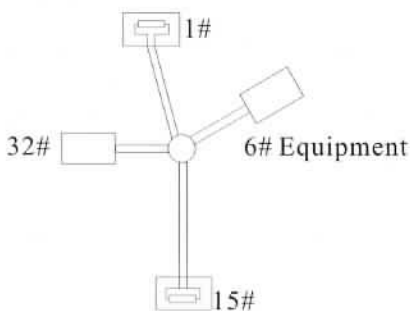
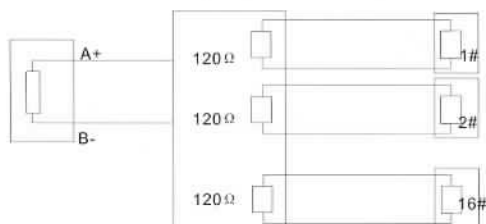

Figure3
Figure4
4) In some circumstances user adopts a star configuration in practical connection. The termination resistors must be connected to the two equipment that are farthest away from each other, such as equipment 1# and 15# in figure3. As the star configuration is not in conformity with the requirements of Rs485 standards, problems such as signal reflections, lower anti-interference performance arise when the cables are long in the connection. The reliability of control signals is decreased with the phenomena that the dome does not respond to or just responds at intervals to the controller, or does continuous operation without stop (refer to figure4)